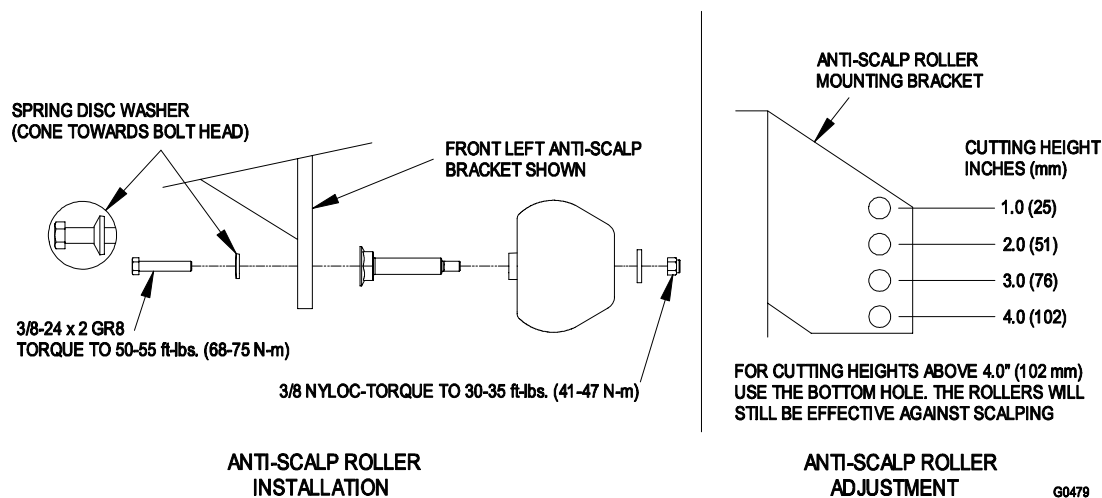

FIGURE 7
- g) Adjust anti-scalp rollers for Normal Operating Conditions. Place rollers in one of the positions shown in Figure 7. Rollers will maintain 3/4 in. (19 mm) clearance to the ground to minimize gouging and roller wear or damage.